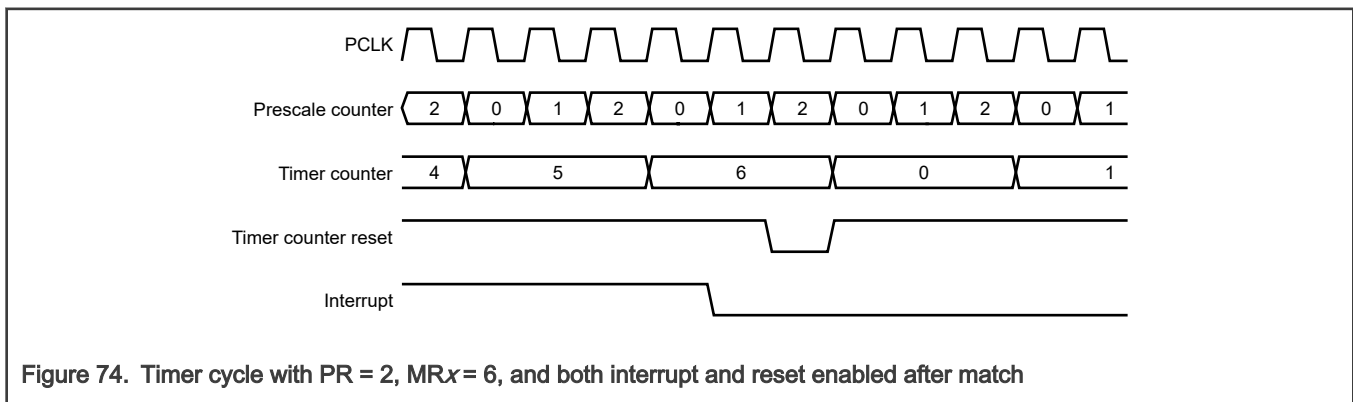

Figure 74. Timer cycle with PR = 2, MRx = 6, and both interrupt and reset enabled after match
Figure 74 shows a timer configured to reset the count and generate an interrupt after a match. The value of **Prescale (PR)** is 2 and the value of **Match (MR0 - MR3)** is 6. At the end of the timer cycle where the match occurs, the timer count is reset and gives a full-length cycle to the match value. The interrupt indicating that a match has occurred is generated in the next clock after the timer reaches the match value.